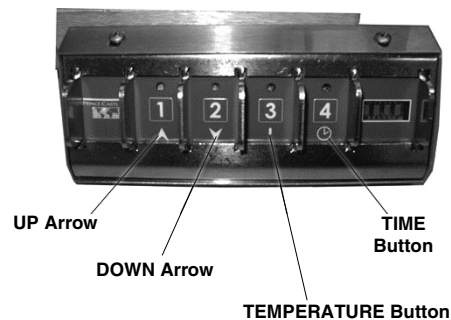

Figure 1
- Furthermore, 247SL and 248SL Toaster Grills allow you to manually initiate the power-saving mode. (See **Figure 1**.)